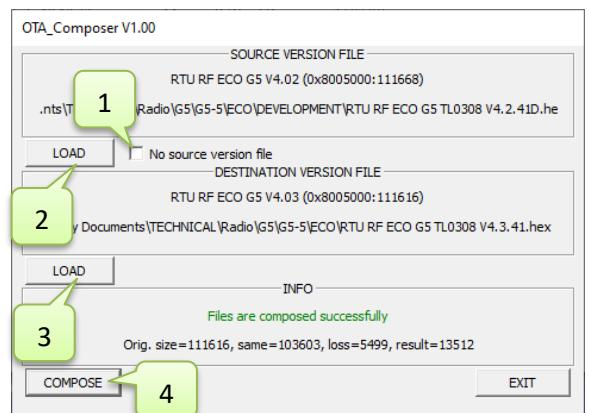

Figure 13 - Composer with source and destination
- In the second option when we know for sure the version currently loaded and we know it is the same for all RTUs, we can save plenty of time by loading only the differences between the SOURCE VERSION and the DESTINATION VERSION. In this case we shall uncheck the “NO SOURCE VERSION” (Figure 13 -1) checkbox, load the file containing the SOURCE VERSION (Figure 13 -2) and load the file with the DESTINATION VERSION (Figure 13 -3) and push the COMPOSE (Figure 13 -4) button to prepare the file to be used by the LAUNCHER.